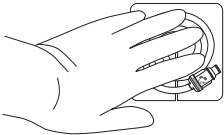
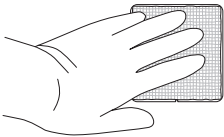

Fig. 8b
Fig. 8c
- Coil catheter and place up to 4 pieces of gauze over coiled catheter (Figure 8b) and carefully cover with adhesive dressing (Figure 8c), covering entire catheter site and gauze.